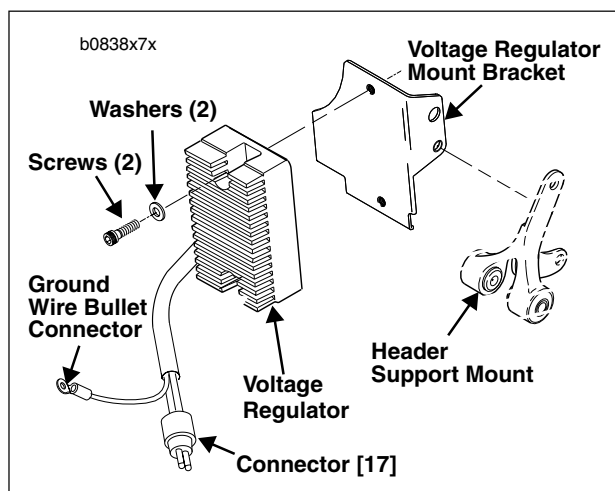

Figure 7-49. Voltage Regulator
1. See Figure 7-49. Attach **new** voltage regulator using screws and washers. Tighten screws to 9-11 ft-lbs (12-15 Nm).